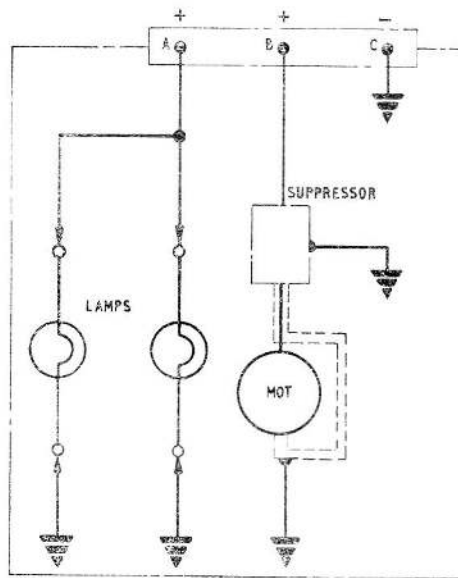

Fig. 1. Circuit diagram
1. The anti-collision lamp, Type G7740-24, is similar to that described in the main chapter but has no mounting flange fitted. The lamp is normally installed in a cylindrical mounting tube, which is incorporated in the airframe structure. The lamp is secured within the tube by three screws and stiff-nuts; access to the nuts, for removal of the lamp, is gained by first removing the lamp lens. Connection to the lamp is made by means of a three pole plug A.N.3102A-10SL-3P mounted on the base of the mechanism cover. A circuit diagram is given in fig. 1.